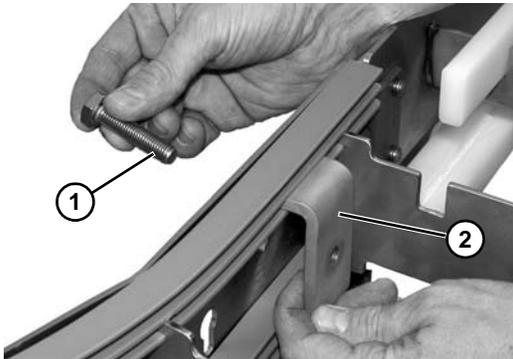

Figure 48
1. Remove the hex head bolt (**Figure 48, item 1**) retaining the wear strip support bracket (**Figure 48, item 2**) from both ends of curve conveyor (for conveyors 4" - 10" wide only).